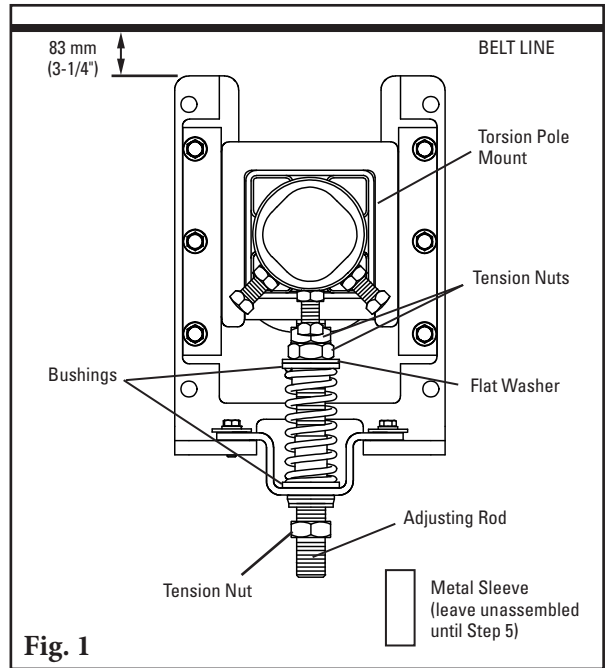

Fig. 1
- 1. Reconfigure the standard pull-up tensioner to the push-up style.** Remove the 3 tension nuts, flat washer, 2 bushings, the spring, the sleeve and the hat bracket; reassemble (Fig. 1) with 2 tension nuts, the flat washer, 2 bushings, the spring and the hat bracket on the upper end of the adjusting rod. Add the 3rd tension nut to bottom of the adjusting rod, this will act as a lock for the metal sleeve.
- 2. Install the tensioner mounting bases.** Mount the bases to the structure or chute so that the tops of the base legs are 83 mm (3-1/4") below the belt (Fig. 1).
Locate top of mounting bracket at 0–120 mm (0–4-3/4") from the belt line (Fig. 1). To move the clamp blocks, if necessary, loosen the clamp block lock bolts and the adjusting bracket lock bolt and move the clamp block to a position where the centre of the pole is 195 mm (5") below the bottom of the belt. Bolt or weld in place. Repeat this step on the opposite side. On one side an access hole may be required (Fig. 1a).